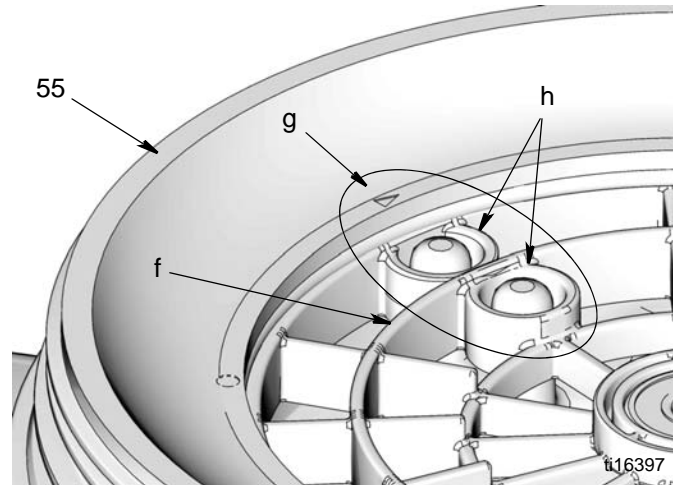

FIG. 5
1. Insert reservoir adapter (55) over ricer plate (f), aligning arrow (g) stamped into the adapter with circular openings (h) in ricer plate as shown in FIG. 5.